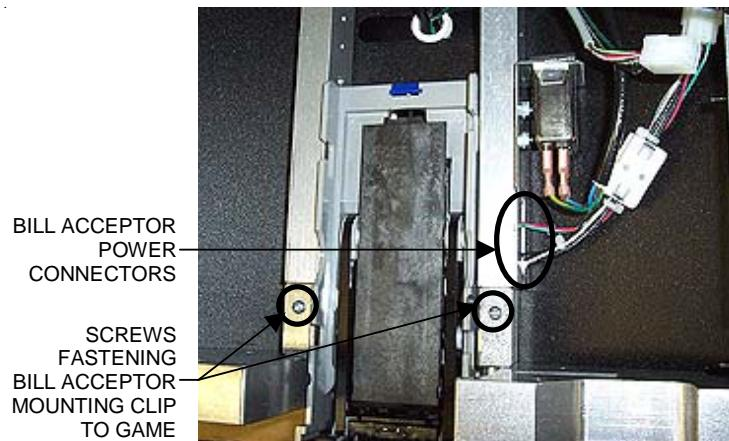

FIGURE 16 - EVO WALLETTE - BILL ACCEPTOR ACCESS/REMOVAL
**EVO Wallette only:** Remove the 2 screws fastening the bill acceptor mounting clip to the game and gently pull up on the bill acceptor so that you can access the two connectors on the right side. Disconnect the 2 connectors and remove the bill acceptor and mounting clip from the game. Then remove the other two screws fastening the clip to the bill acceptor. See Figure 16. Skip to "Bill Acceptor Installation".
**EVO Wallette only:** Fasten the bill acceptor mounting clip to the new bill acceptor. Then connect the bill acceptor power connectors and fasten the bill acceptor mounting clip to the game. See Figure 16.